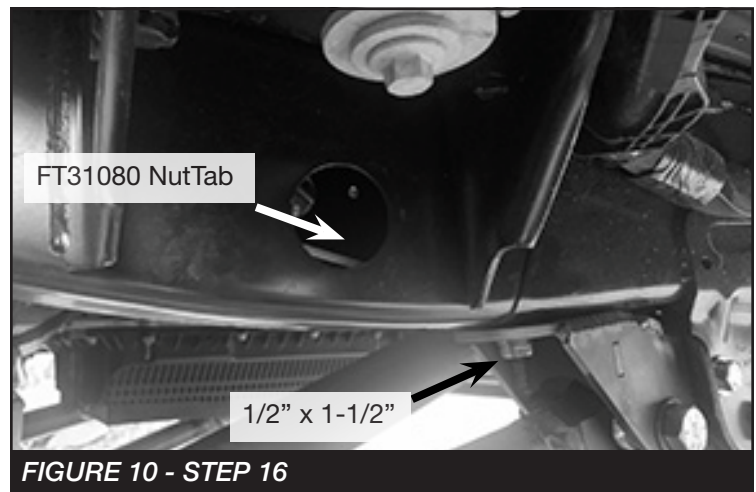

FIGURE 10 - STEP 16
16. Install the supplied FT31080 (Nut Tab) through the factory frame opening and install the  $\frac{1}{2}$ " x 1-1/2" bolt, washer and split washer to attach the new 4-link bracket to the frame. **SEE FIGURE 10.** Torque  $\frac{3}{4}$ " hardware to 380 ft-lbs and the  $\frac{1}{2}$ " hardware to 106 ft-lbs.